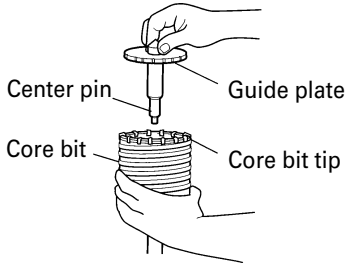

Fig. 13
- (3) Insert the center pin into the guide plate until it stops.
- (4) Engage the guide plate with the core bit, and turn the guide plate to left or right so that it does not fall even if it faces downward. (Fig. 13)